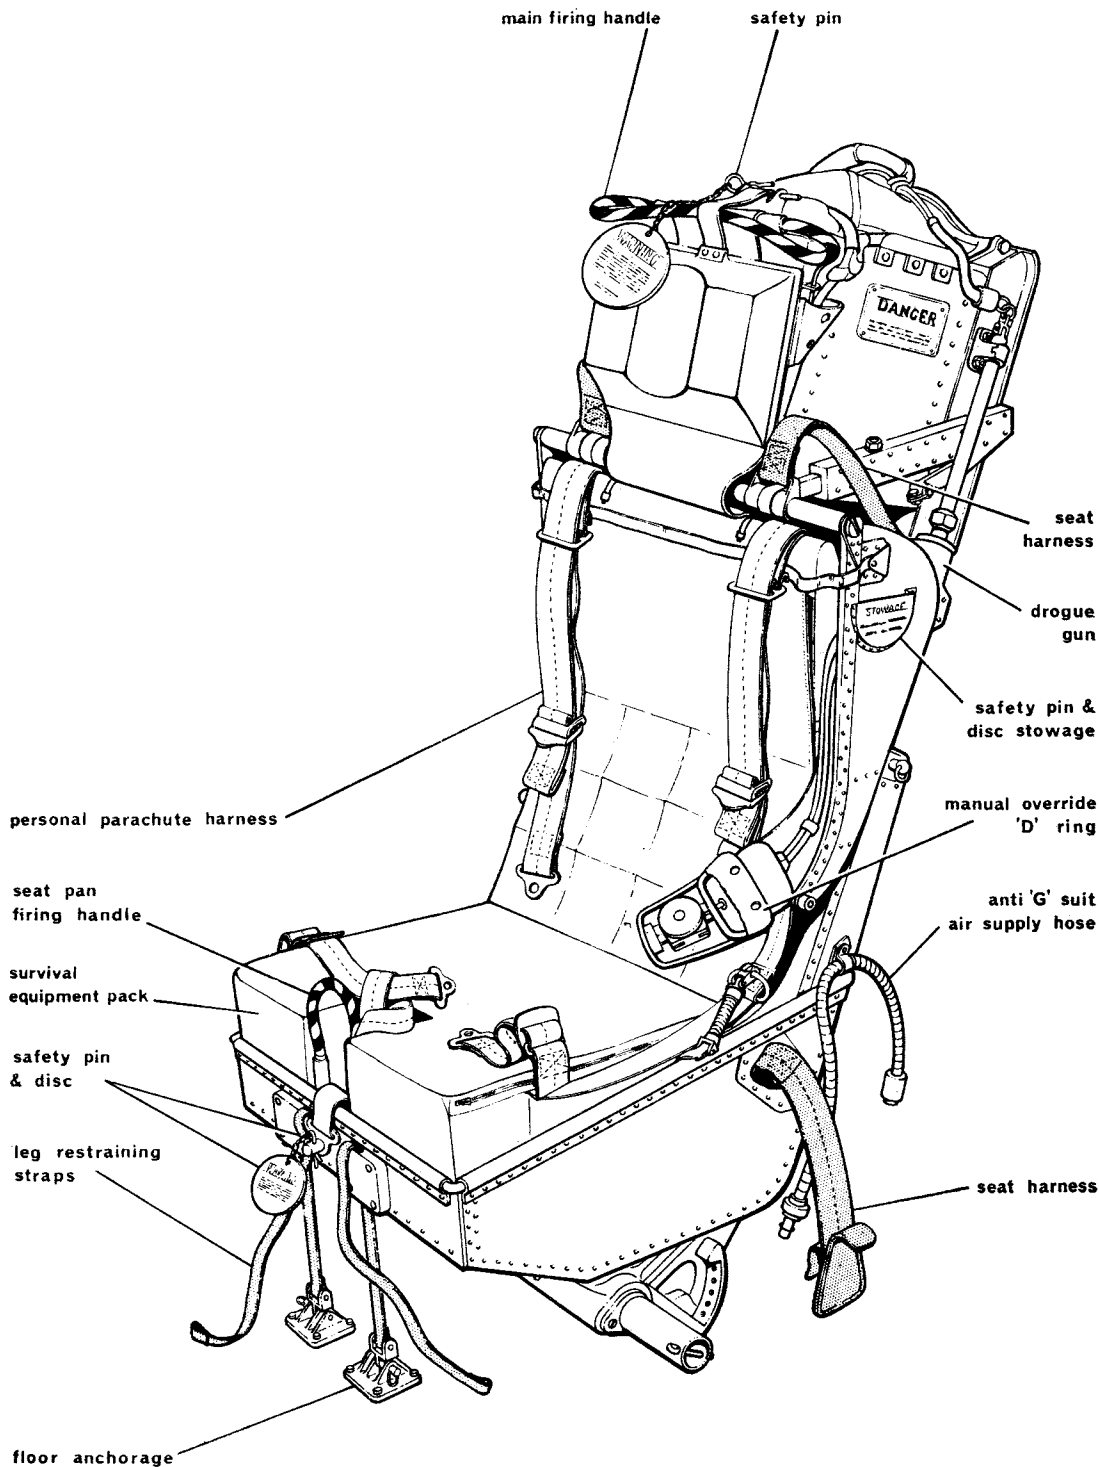

Fig. 2 Typical ejection seat
b. *Safe for parking.* The pins are placed in position to prevent operation of either the main or alternative firing handles (Fig 2). Under no circumstances should any person lean over the cockpit of an aircraft unless these handles are locked. It is the responsibility of a *named armament tradesman* to make the seat 'safe for servicing' before any person is allowed in the cockpit.